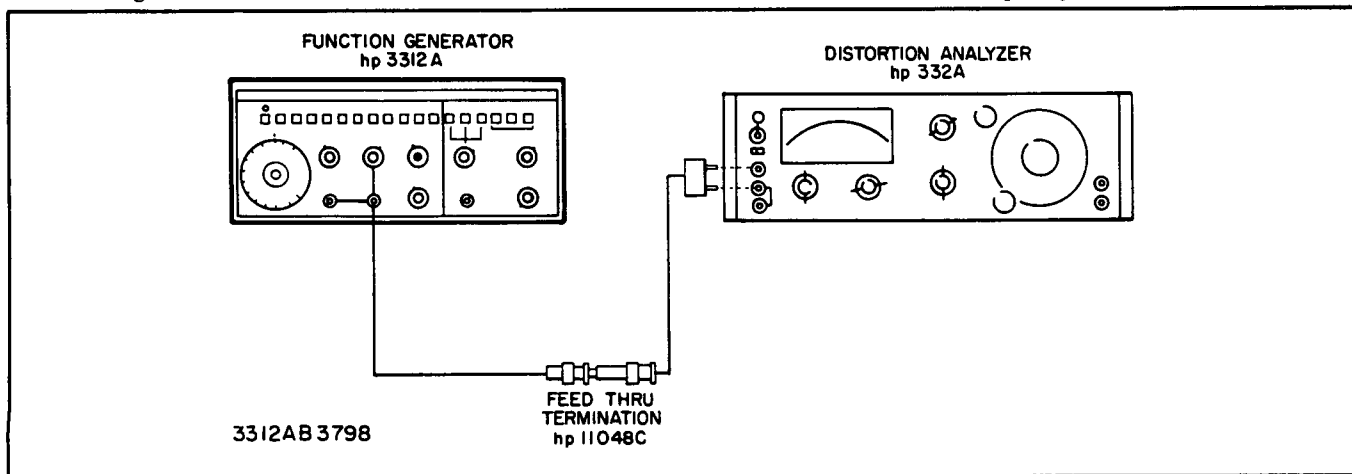

Figure 5-6. Sine Wave Distortion Test.
a. Connect the equipment as shown in Figure 5-6. Set the 3312A to SINE function at 10 Hz. Set the AMPLITUDE control to 10 V. All modulation pushbuttons should be out and TRIGGER PHASE set to FREE RUN. SYM control *must* be set to CAL.
c. Substitute a spectrum analyzer for the distortion analyzer shown in Figure 5-6.